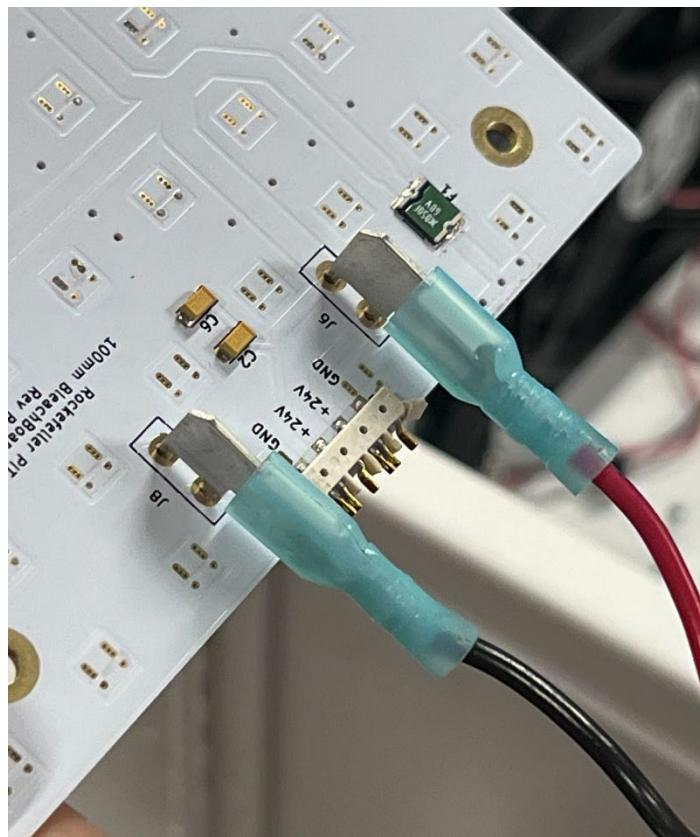

Figure 4: Attachment of wires to the power input blade connectors using quick-tab connectors.
2. Connect the wires to the tab connectors on the board as shown in Figure 4. Note which one is the +24VDC line and which one is the negative line (marked GND on the board).